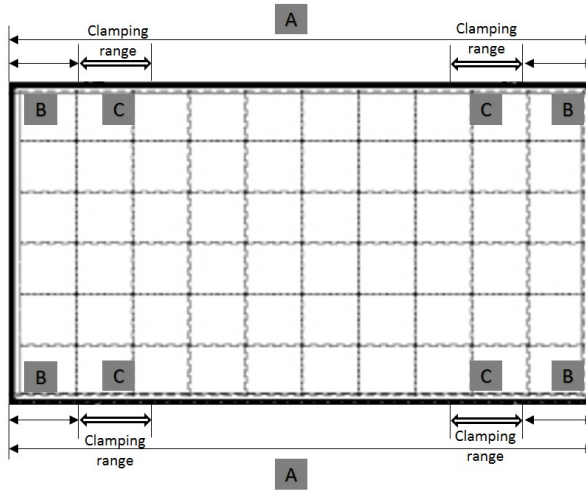

Figure 4: Long side clamping range
- For mounting the supporting rails on the long side of the frame, slide bolts through the rail grooves next to the 4 clamp locations. The module may be clamped only in the permitted clamping range. For exact frame clamping locations refer to area C in *Figure 4* and *Table 2*.